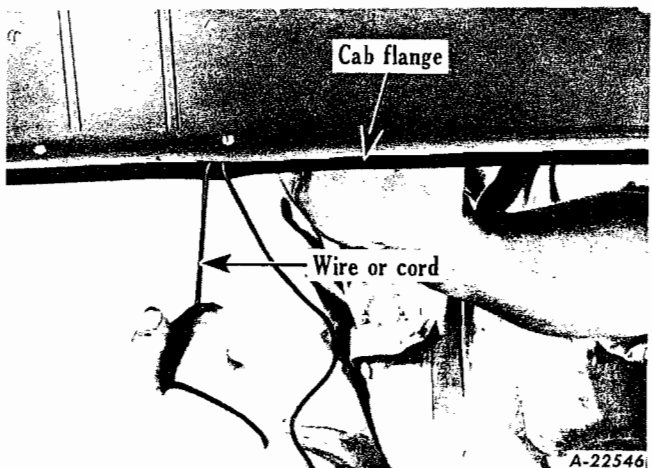

Fig. 25
5. With one man working from inside the cab, and the other serving to press the glass inward and to steady the glass from the outside, grasp the end of the cord (either end of cord) as shown in Fig. 25.